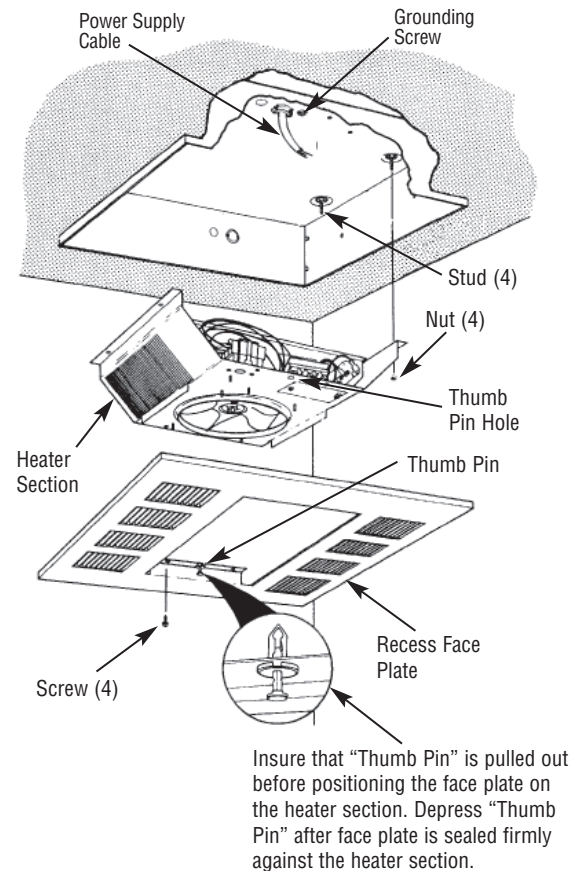

Figure 8
12. Position the heater section over the studs in the recess mounting box (Figure 8).
13. Push the heater section onto the studs and securely tighten the four (4) nuts (removed from step 4) on the studs to secure the heater section to the recess mounting box (Figure 8).
FAILURE TO INSTALL THE FOUR MOUNTING NUTS COULD RESULT IN THE HEATER FALLING (SEE FIGURE 8).
17. Install and securely tighten four screws (supplied) to secure the recess face plate to the heater section (Figure 8).